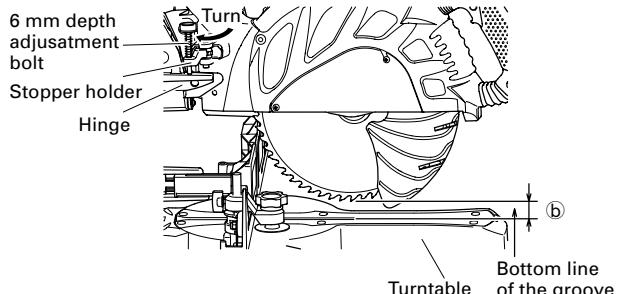

Fig. 49
- (1) Turn the stopper holder on the direction shown in Fig. 49.